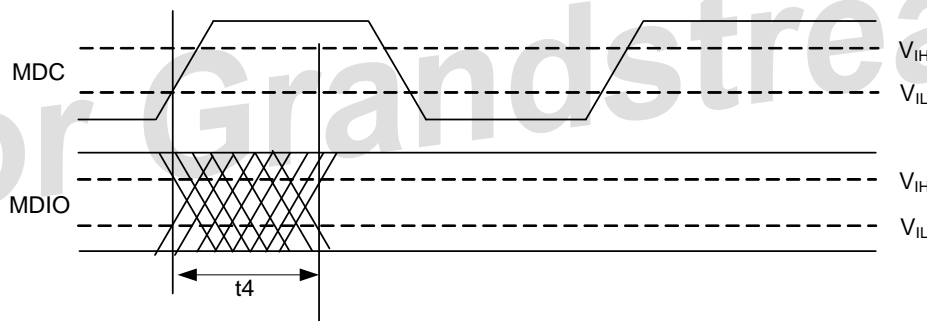

Figure 18. MDIO Sourced by RTL8218D (Slave)
- The timing characteristics t_4 (Figure 18) of the Slave (RTL8218D) are provided by the RTL8218D when the RTL8218D sources the MDIO signal (Read command)